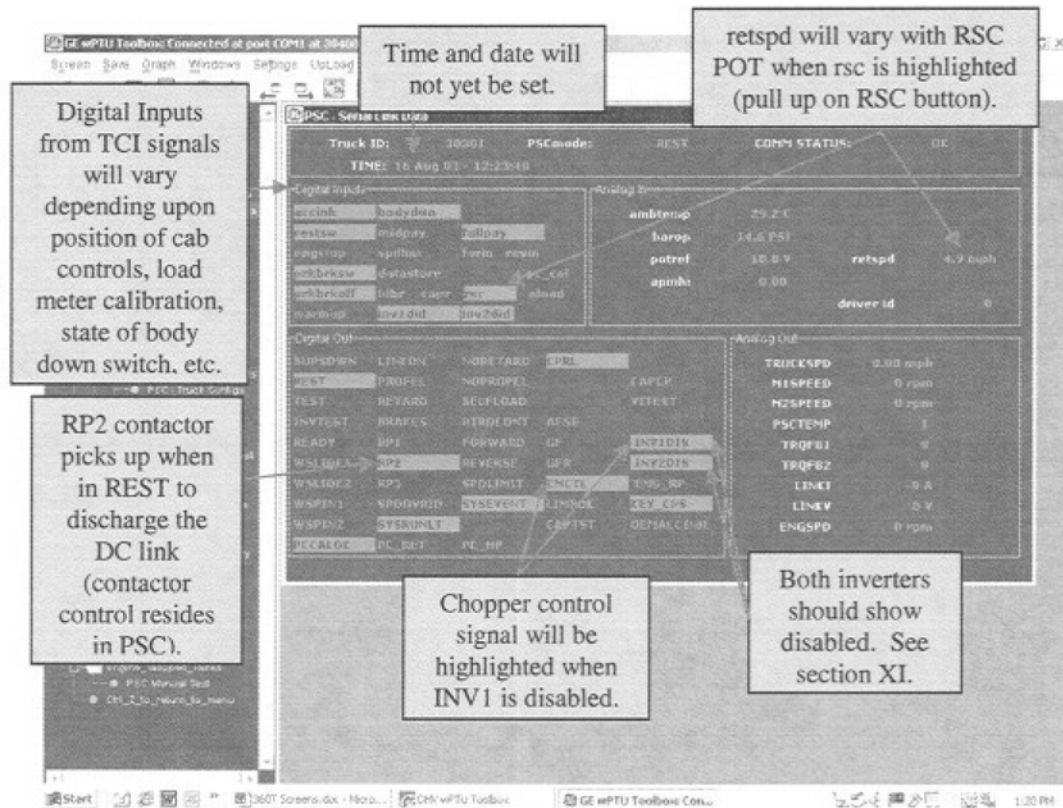

FIGURE 3-4. PSC SERIAL DATA SCREEN
- Verify that the analog and digital values are similar to the example in Figure 3-4.